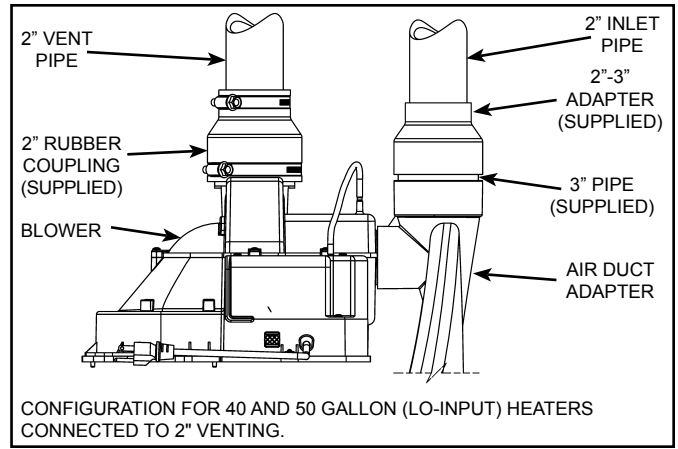
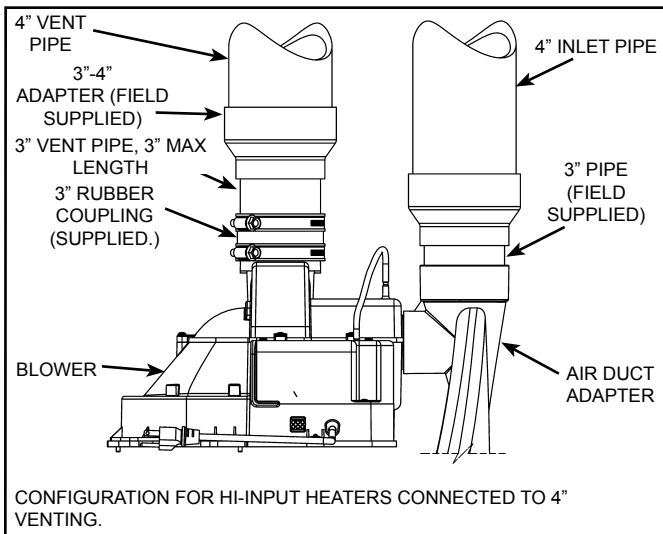

Figure 44.
Figure 48.
4. Make sure that the plastic tubing is still attached from the air pressure switch to the port on the blower motor housing. Make sure the plastic tubing is not folded anywhere between the pressure switch and the blower motor housing (see Figure 44 thru Figure 48).
Important: These connections must be properly seated and tightened to prevent the leakage of flue gases into the area. See Figure 44 thru Figure 48.